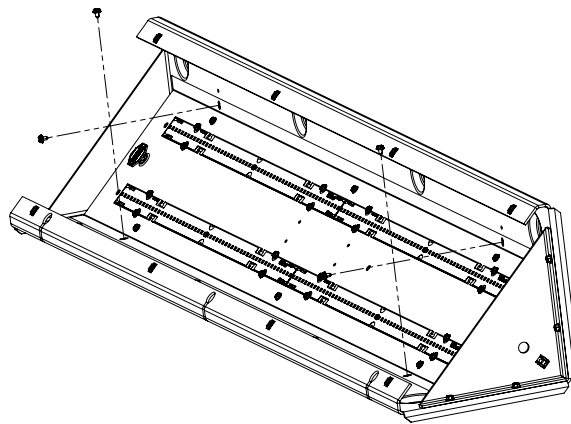

Figure 5.
Step 8. Finish installing the reflector by reinstalling the 4 white screws removed in Step 3. (Figure 5)